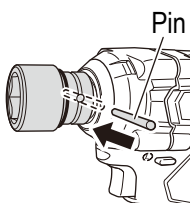

Fig. 10
- (2) Insert the pin into the socket. (**Fig. 10**)